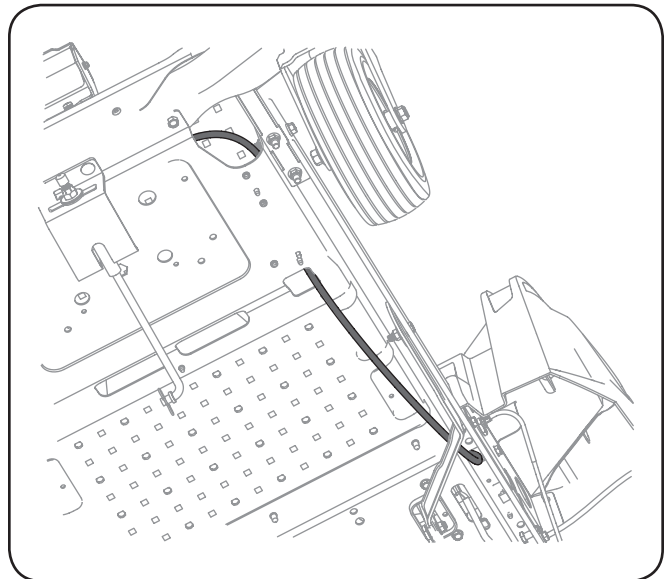

Figure 1-13
- b. Feed the headlight wire harness along the bottom of the frame and then up through the hole below the seat box frame. See Figure 1-13.